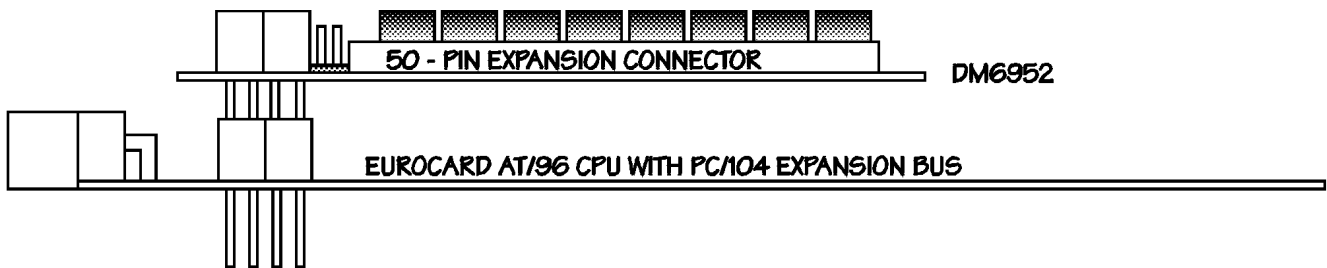

Fig 3-2: 19" Eurocard rack installation with an integrated PC/104 dataModule and EUROCARD cpuModule computer system
- Fig. 3-2: 19" Eurocard rack installation with an integrated PC/104 data Module and EUROCARD cpuModule computer system
The PC/104 system can easily be inserted into a 19" rack installation using the CPU as a "form factor adapter". Assemble your PC/104 data modules on a RTD single board EUROCARD computer and install the system in a 19" enclosure. Multiple DM6952HR boards can be easily connected to this system. See figure 3-2 below.